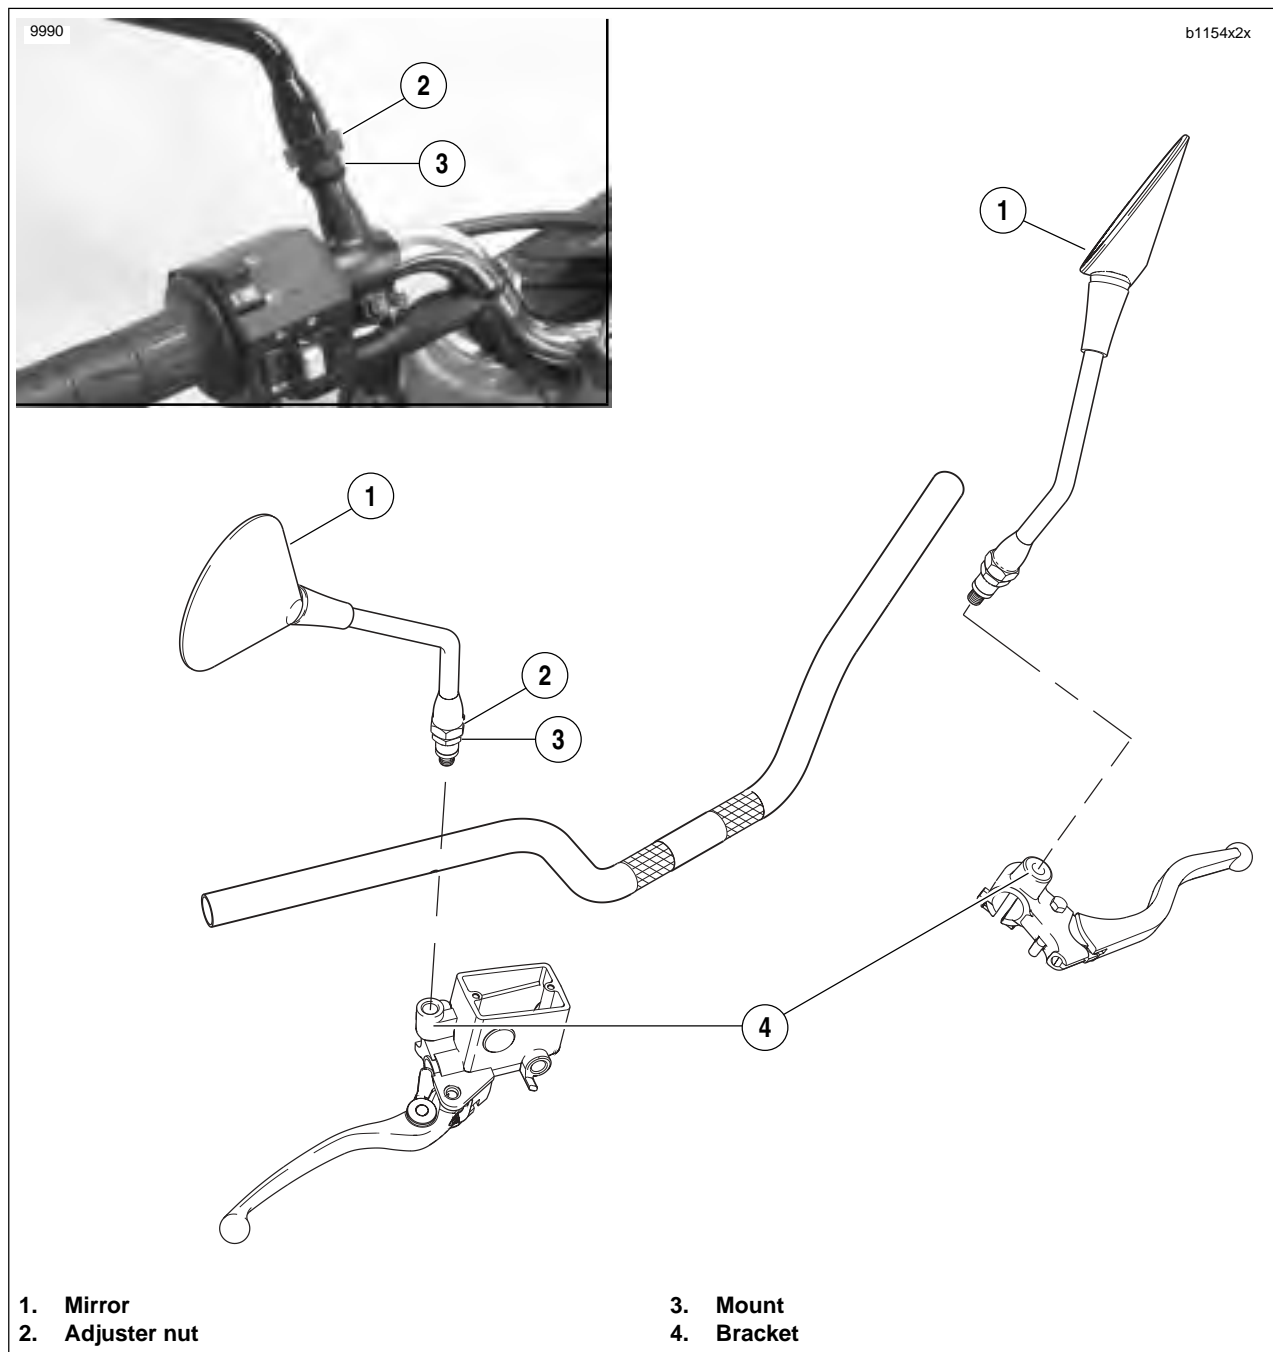

Figure 2-98. Mirrors and Mounting Hardware
1. See Figure 2-98. Loosen adjuster nut (2) and remove mirror (1) from mount (3).
2. Loosen mount (3) and remove from bracket (4).